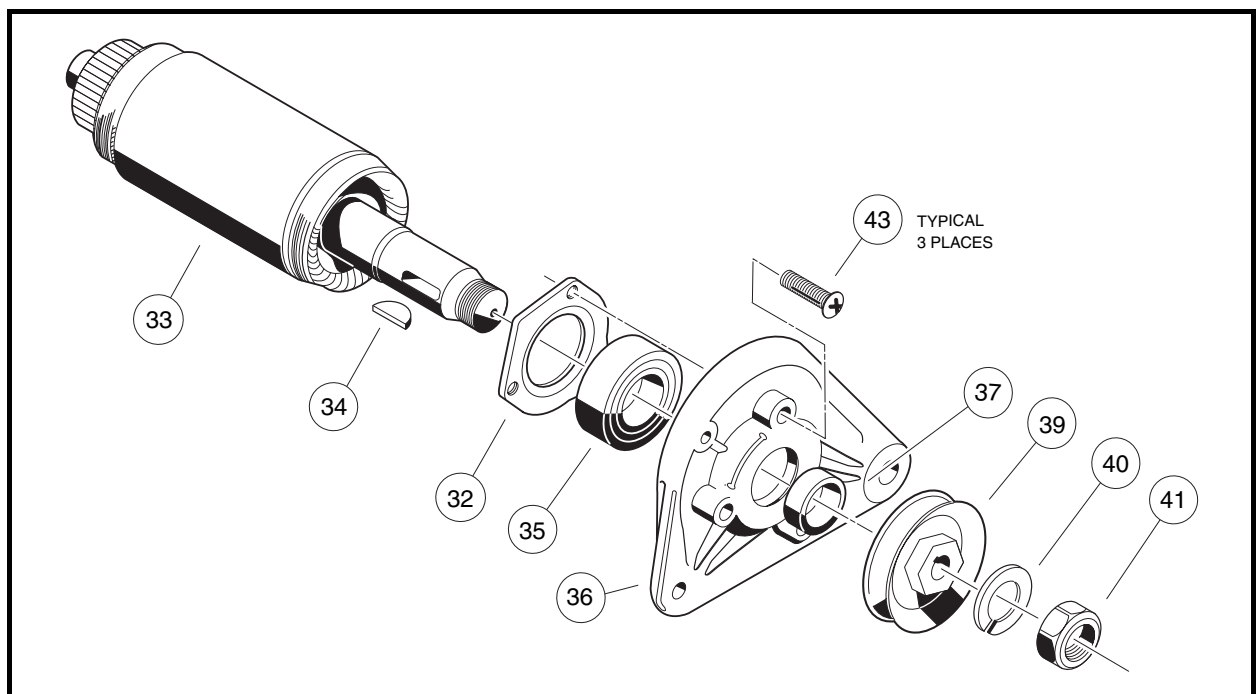
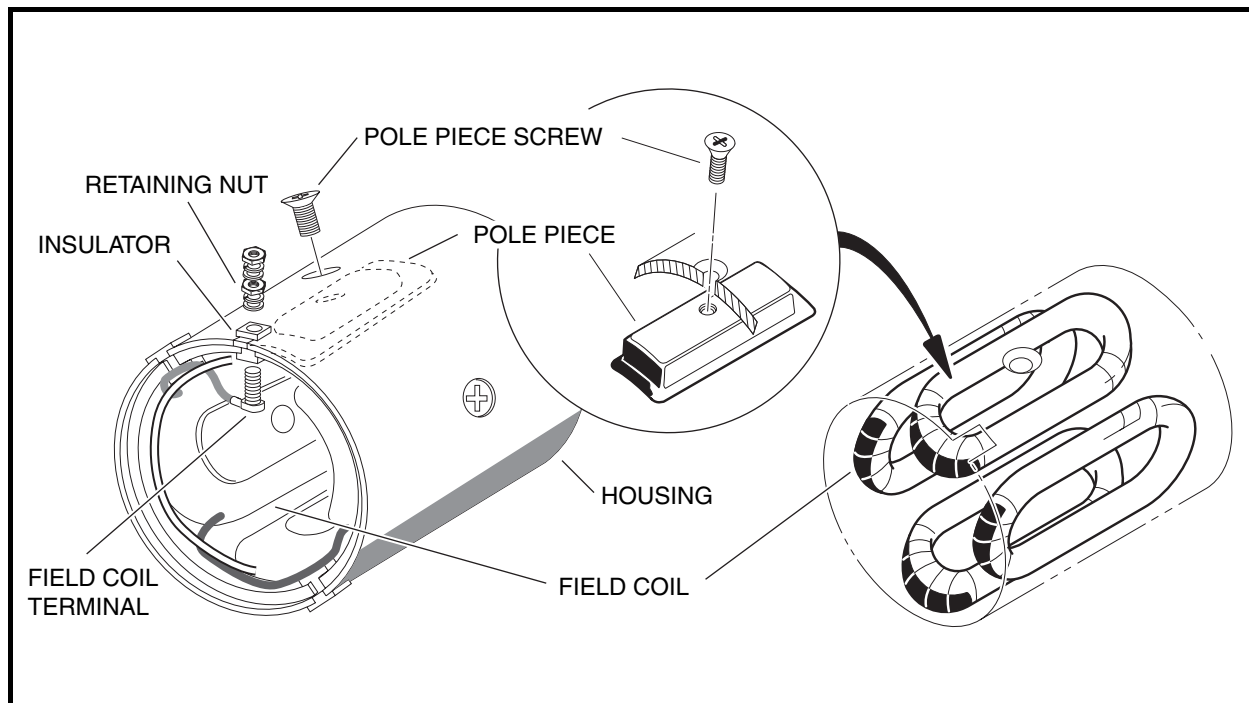

Figure 14-7 Armature and Output End Cover Assembly
Figure 14-10 Field Coil Assembly
3. To separate armature (33) from output end cover (36), remove nut (41), lock washer (40), pulley (39), shaft key (34), spacer (37), and bearing retainer screws (43) (**Figure 14-7, Page 14-4**).
3. Slide the bearing retainer (32) off of the output end of the shaft (**Figure 14-7, Page 14-4**).
1. Remove the retaining nut from each field coil terminal and slide the insulator out of the slots in the housing. Remove the four pole piece screws from the housing. Remove the four pole pieces from inside the housing. Remove the field coils from the inside of the housing (**Figure 14-10, Page 14-6**). See following **NOTE**.
NOTE: Do not remove the insulators or the field coils unless an electrical test indicates that it is necessary (**Figure 14-10, Page 14-6**). See **Test Procedure 8 – Starter/Generator (Starter Function)** on page 12-16.
2. After the insulators are seated in the slots, install the threaded terminals through the wire connectors and then through the insulators. Install a flat washer, lock washer and nut onto each threaded terminal on the outside of the housing. Tighten nuts to 47.5 in-lb (5.4 N·m) (**Figure 14-10, Page 14-6**).
3. Install the four pole pieces into the housing. Use the four screws to secure pole pieces to the inside of the housing to retain the field wires. Tighten screws to 9 ft-lb (12.2 N·m) (**Figure 14-10, Page 14-6**).
4. Slide the bearing retainer onto the output end of the armature shaft (33) so that it will hold the outside of the bearing (35) only.
5. Press a new ball bearing (35) onto the output end of the armature (**Figure 14-7, Page 14-4**). Press a new ball bearing onto the commutator end of the armature shaft. **See following CAUTION.**
6. Install the output end cover (36) onto the armature. Secure the bearing retainer (32) to the cover and tighten the screws (43) to 39 in-lb (4.4 N·m) (**Figure 14-7, Page 14-4**).
11. Slide the spacer (37) onto the end of the shaft. Insert the shaft key (34) into the shaft. Install the belt pulley (39) onto the shaft, and install the lock washer (40) and M14 nut (41). Tighten the nut to 28 ft-lb (38.0 N·m) (**Figure 14-7, Page 14-4**).